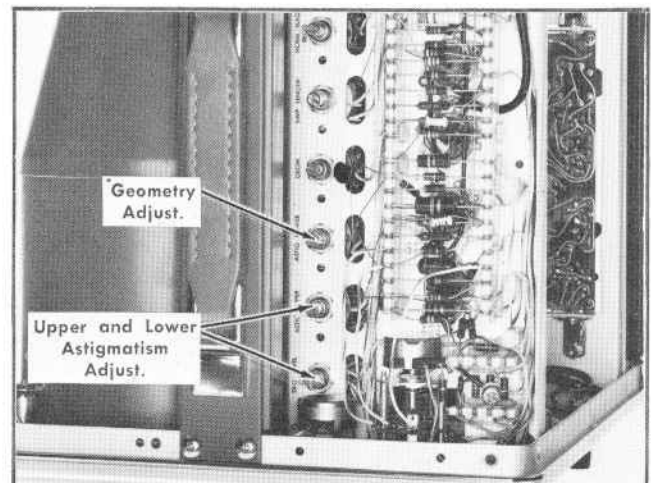

Fig. 6-8. Location of Astigmatism and Geometry adjustments. (steps 6 and 7).
d. Adjust the Astigmatism control (see Fig. 6-8) for the best display. It may be necessary to readjust the front-panel INTENSITY and Upper Beam FOCUS controls at the same time.
g. Set the Geometry adjustment (see Fig. 6-8) for minimum curvature of the vertical lines at the sides of the display. (See Fig. 6-9.)